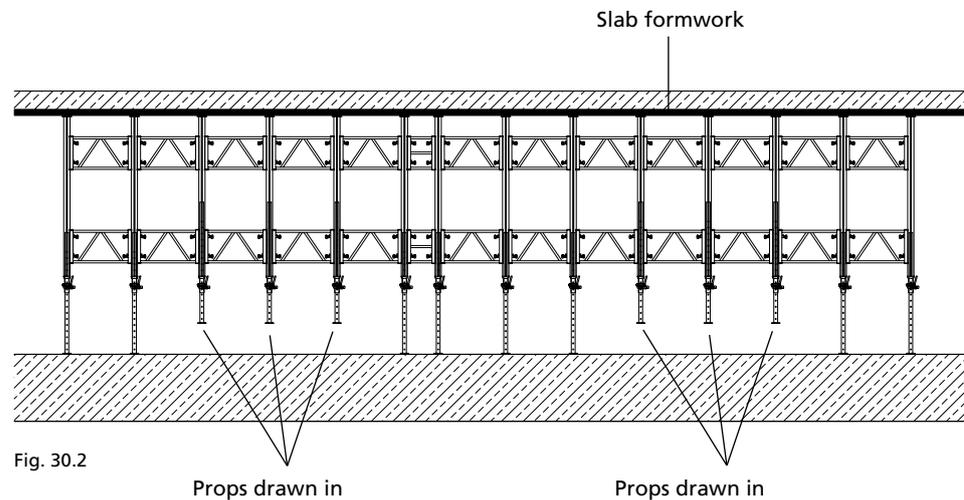

Fig. 30.2
2. Draw in all MEP props that are going to be attached to the transport walers (Fig. 30.2).